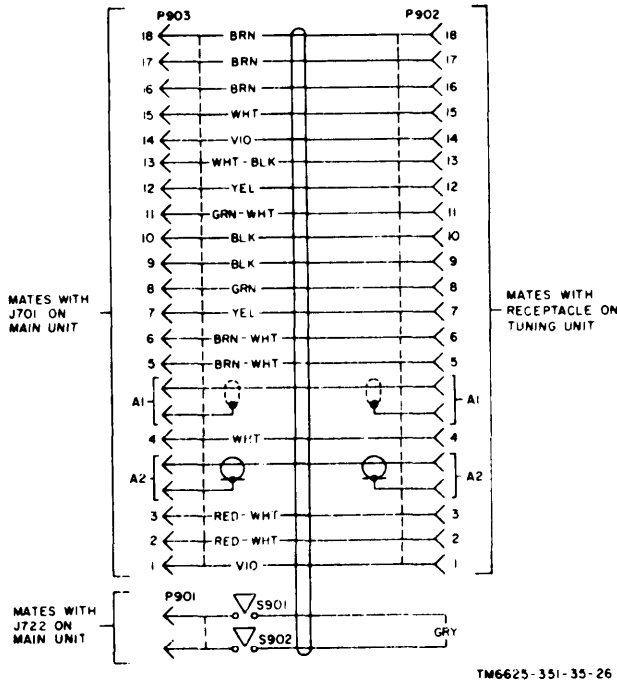

Figure 39. Cable Assembly, Special Purpose, Electrical Brunched CX-6681/URM-85, schematic diagram.
e. Cable Assembly, Special Purpose, Electrical Branch d CX-6681/URM-85 (fig. 39). This cable assembly is used to apply operating voltages and to couple signals to and from the main unit when a tuning unit is being aligned or repaired. The main branch of the cable is 30-inches long and serves the following functions: